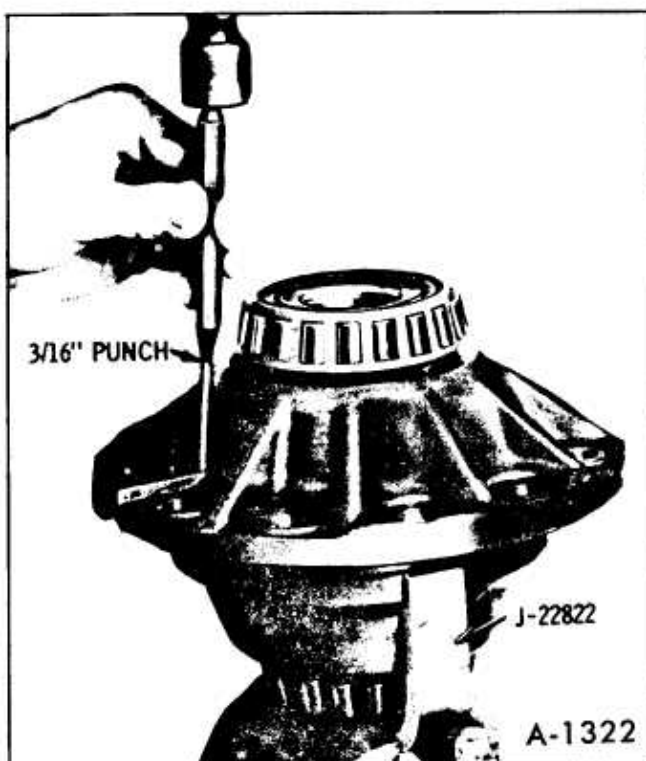

Figure 34—Removing Lock Pin From Pinion Shaft
5. Drive lock pin from pinion shaft with a 3/16 inch punch (figure 34).